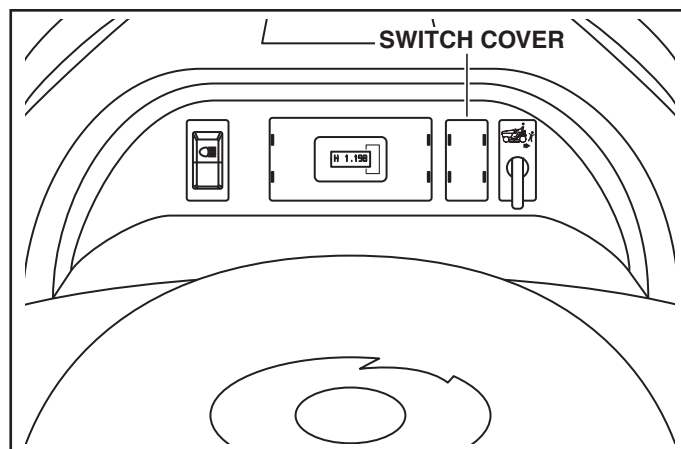

Figure 17.
1. See figure 17. Remove the switch cover indicated.